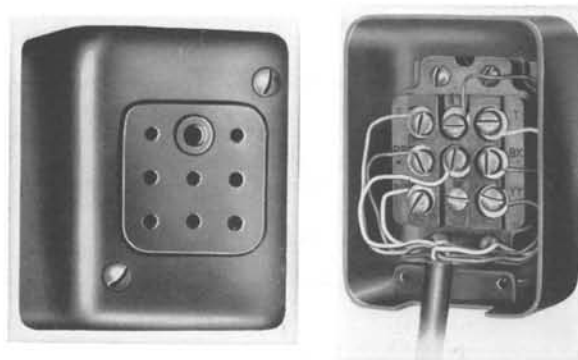

FIG. 20—INSTALLATION OF 392A JACK
11.02 Install 392A jack, as shown in Fig. 20, and as follows:
1. Connect station wire to jack, and dress as shown in Fig. 20.